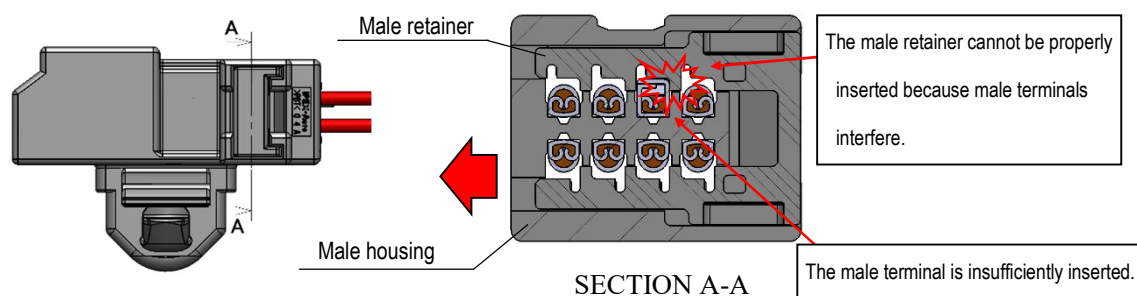

Fig.34 Insufficient male terminal insertion
- ③ When male terminals are insufficiently inserted as shown in Fig.34, the male retainer cannot be installed. Insert the male terminals completely, and install the male retainer again.